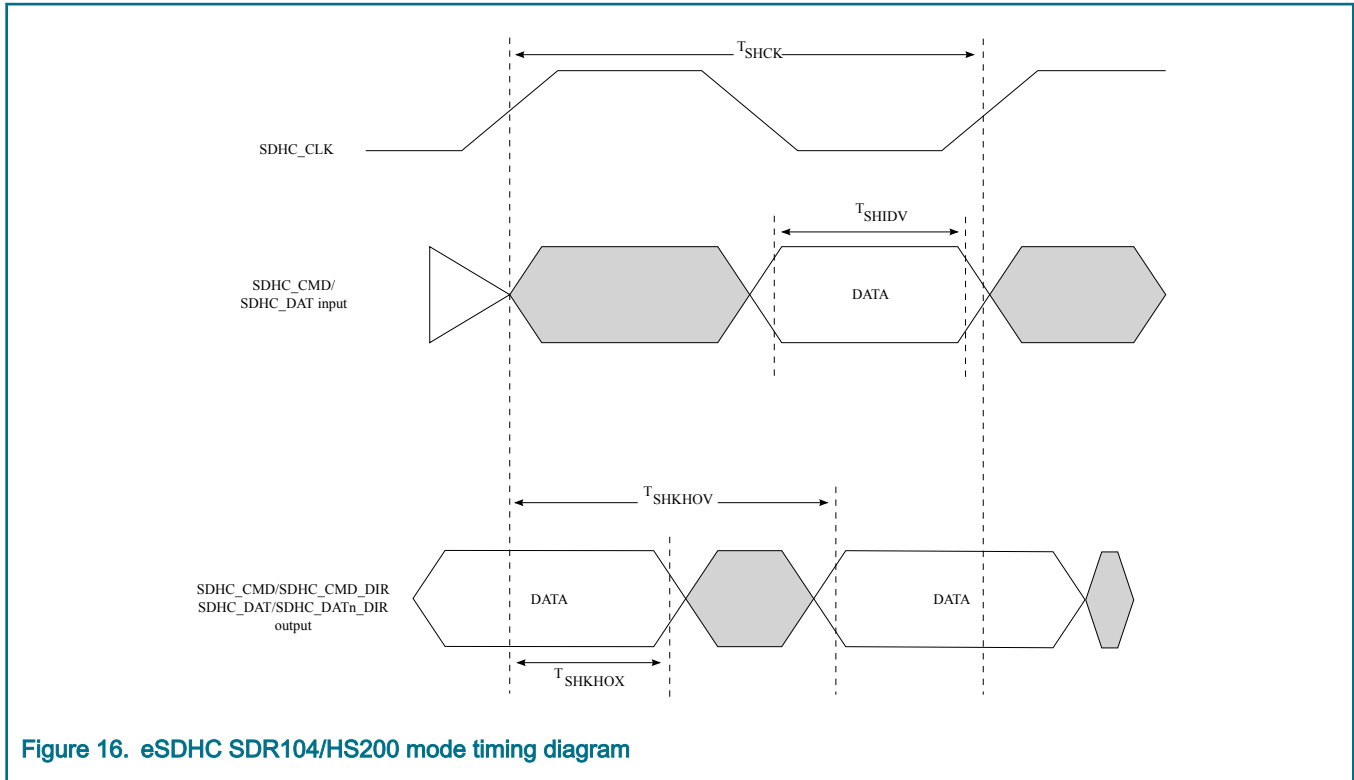

Figure 16. eSDHC SDR104/HS200 mode timing diagram
2. The symbols used for timing specifications herein follow the pattern of t(first two letters of functional block)(signal)(state) (reference)(state) for inputs and t(first two letters of functional block)(reference)(state)(signal)(state) for outputs. For example, tSHKHOX symbolizes eSDHC highspeed mode device timing (SH) clock reference (K) going to the high (H) state, with respect to the output (O) reaching the invalid state (X) or output hold time. Note that in general, the clock reference symbol is based on five letters representing the clock of a particular functional. For rise and fall times, the latter convention is used with the appropriate letter: R (rise) or F (fall).
3. See Figure 16.
<p>1. <math>C_L = C_{BUS} + C_{HOST} + C_{CARD} \leq 15pF</math>.</p> <p>2. The symbols used for timing specifications herein follow the pattern of <math>t_{(first\ two\ letters\ of\ functional\ block)(signal)(state)\ (reference)(state)}</math> for inputs and <math>t_{(first\ two\ letters\ of\ functional\ block)(reference)(state)(signal)(state)}</math> for outputs. For example, <math>t_{SHKH0X}</math> symbolizes eSDHC highspeed mode device timing (SH) clock reference (K) going to the high (H) state, with respect to the output (O) reaching the invalid state (X) or output hold time. Note that in general, the clock reference symbol is based on five letters representing the clock of a particular functional. For rise and fall times, the latter convention is used with the appropriate letter: R (rise) or F (fall).</p> <p>3. See <a href="#">Figure 17</a>.</p> <p>4. See <a href="#">Figure 18</a>.</p> <p>5. For HS400 without enhanced strobe (DQS) command, see <a href="#">Figure 16</a>.</p>